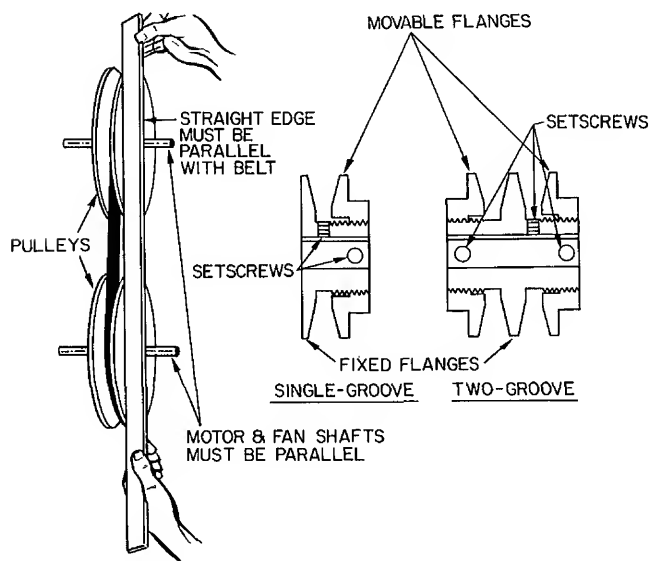

Fig. 21 — Indoor Air Fan Pulley Adjustment (50DPE014 and 50DP016)
3. Loosen movable pulley flange setscrew (see Fig. 21).